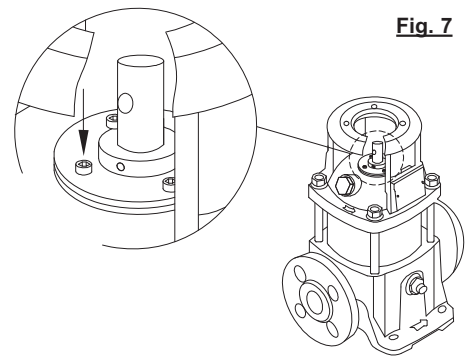

Fig. 7
3. Once the new Mechanical seal is seated, install the four retaining bolts. (Fig 7)